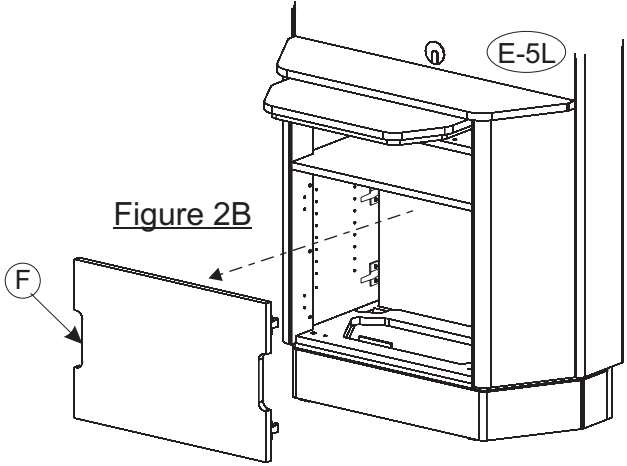

Figure 2B
For E-5 models: Remove Inner Back Panel (F) by pulling back on the panel until the Keku Latches release (see Figure 2B).
For E-5L models: Remove Inner Back Panel (F) by pulling back on the panel until the Keku Latches release (see Figure 2B).